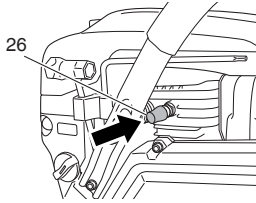

Fig. 25
5. Push the decompression valve (26). The valve will automatically return to the original position once the engine has started. (Fig. 25)